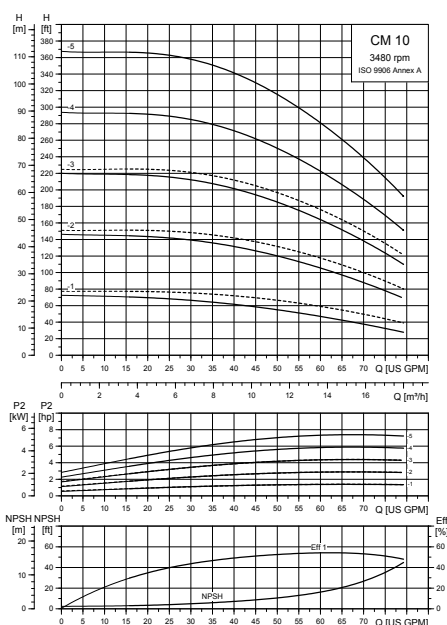

Fig. 27 Example of a curve chart
- the duty point of the pump (see fig. 27)